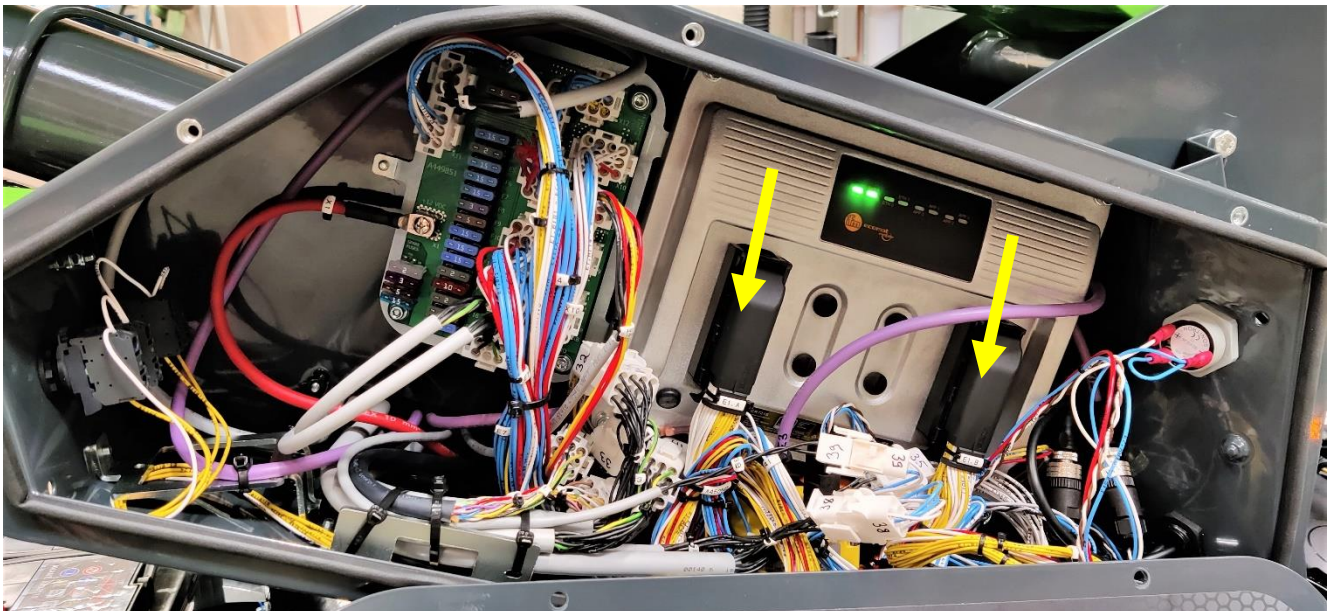

Figure 45. Connectors of the logic controller inside the lower control box
**Before welding** remove and cover the battery plus (+) and minus (-) terminals. Disconnect all connectors of the logic controllers inside the lower control box (figure 45) and upper control box. Connect the earth terminal of the welding device directly to the part to be welded. Do not touch the logic controllers or electric cables with the welding electrode or earth terminal of the welding device. Protect the logic controllers from welding spatters.